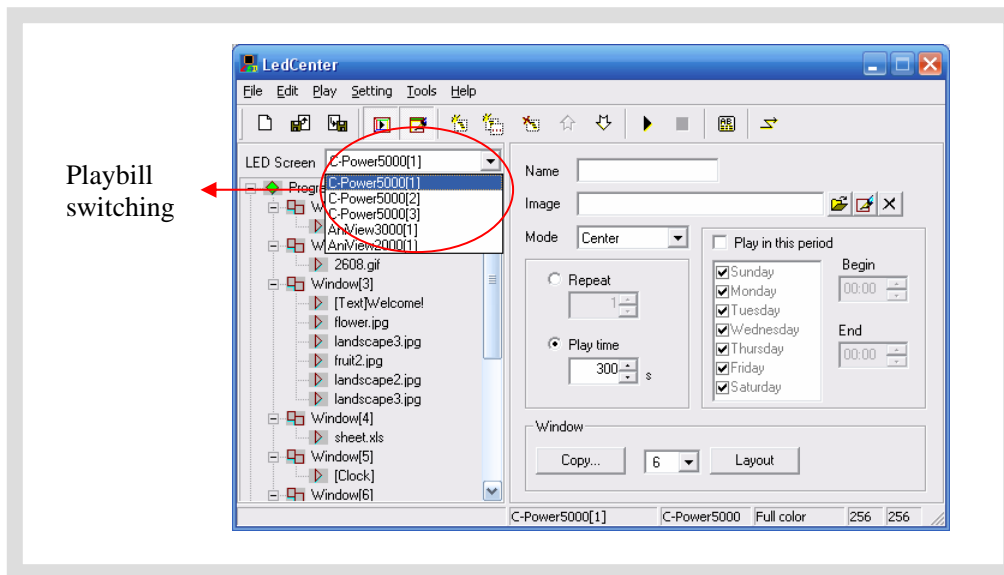

Figure9 Playbill switching of display screens
- The **playbill** switching of display screens is shown as Figure9.